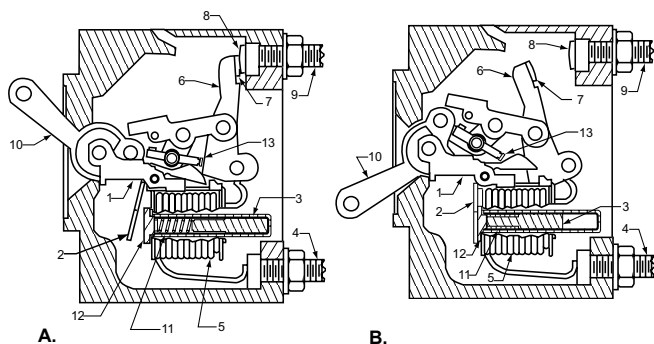

Fig. 12 Operating mechanism of an Airpax magnetic circuit breaker.
All trip times and 100 percent hold specifications, as shown on delay curves, assume that the circuit breaker is in a normal mount position as illustrated in Figure 12. With the delay mechanism situated on the horizontal plane, gravity has little or
The magnetic breaker shown in Figure 12 is essentially a toggle switch composed of a handle connected to a contact bar which opens and closes an electrical circuit as the handle is moved to the “ON” or “OFF” position. The handle is connected to the contact bar by a link which is collapsible.
As long as the current flowing through the unit remains below 100 percent of the rated current of the unit, the mechanism will not trip and the contacts will remain closed as shown in Figure 12 (a). Under these conditions, the electrical circuit can be opened and closed by moving the toggle handle (10) on and off.
the delay core (3) against spring (11) to a position where it comes to rest against pole piece (12) as shown in Figure 12 (b).
The movement of this core against the pole piece increases the flux in the magnetic circuit described above enough to cause the armature (2) to move from its normal position shown in Figure 12 (a) to the position shown in Figure 12 (b). As the armature moves it trips sear pin (13) which, in turn, triggers the collapsible link of the mechanism, thus opening the contacts.